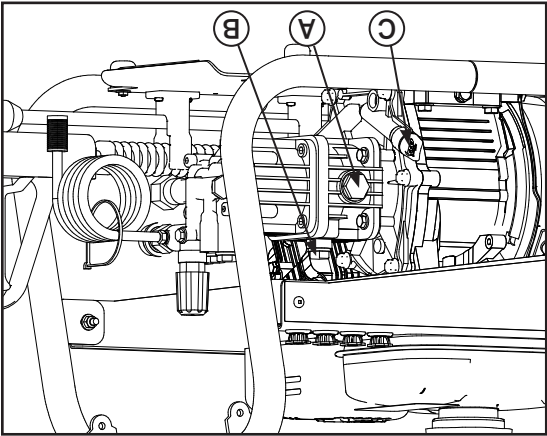

Figure 1
2. Check the oil level of the pump. Pump must be in a level position. Oil level must be halfway on the sight glass (A on figure 1).
3. Check the oil level of the engine. Engine must be in a level position. Remove the oil filler cap/dipstick (C on figure 1). Oil level should be at bottom edge of the oil fill hole.